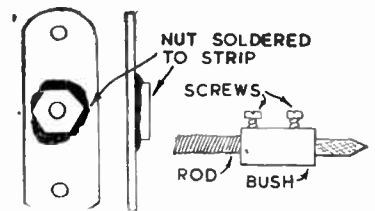

Fig. 3—Screw arrangement and holders
strip, as illustrated in Fig. 3. These metal strips are screwed on the inside of pieces (B) as shown. From each strip one of the supply leads is taken, loops being formed at the ends of the wires so that they can be held under a washer placed on the lower securing screws.
Bushes with set screws hold the carbons in position, as shown in Fig. 3. These bushes, with  $\frac{1}{4}$ in. diameter centre hole, can easily be bought and torch-lamp carbons will fit them well.